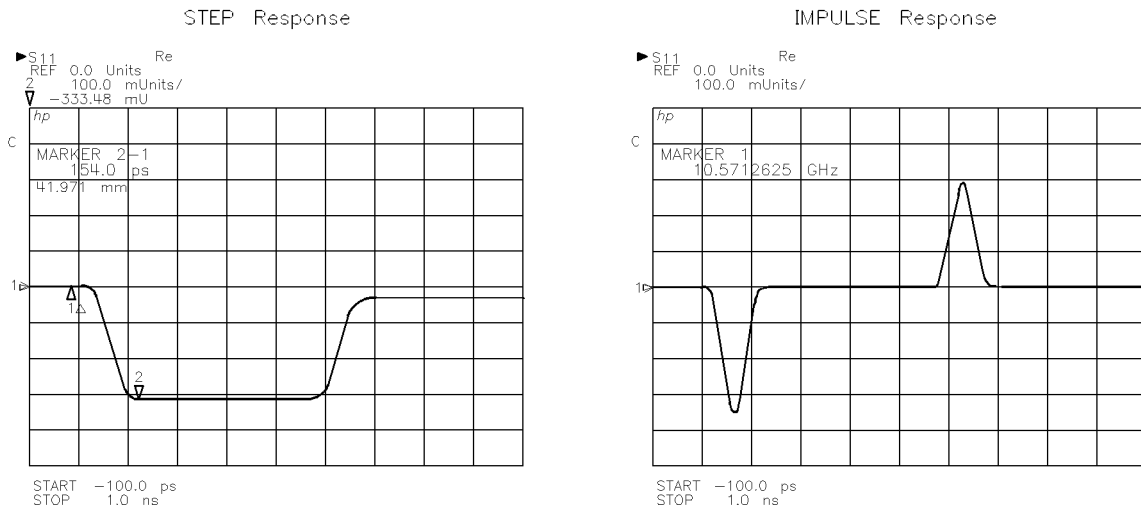

Figure 11-6. Time Low Pass Step Response of a 25 Ω Airline and Fixed Load
7. Press **AUTO** to view the STEP response (example in Figure 11-6).
Masking occurs when an Impulse or Step response of one discontinuity affects (or hides) the response of subsequent discontinuities in the circuit. This occurs because the energy reflected from (or absorbed in) the first discontinuity never reaches the second. In the 25Ω airline example (Figure 11-6), the Time Low Pass step response shows a -0.33 reflection coefficient at the first discontinuity, which is the correct value for an impedance of 25Ω. However, at the end of the 25Ω section, the response does not return to zero reflection coefficient, which would be expected for a 50Ω impedance. The reason is that the step incident on the second response is of less than unity amplitude because of the energy reflected in the first mismatch.